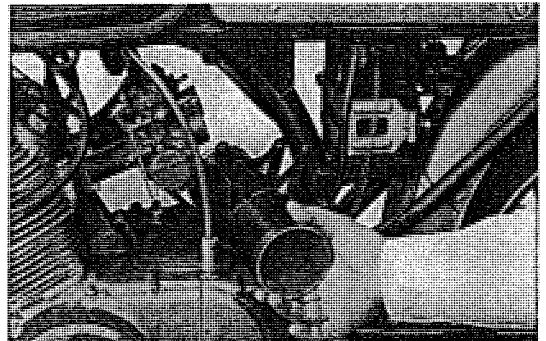

Fig. 4.57 Removing tool box from frame
6. By removing the 6 mm hex nut and 6×70 hex bolt, the tool box complete is separated from the frame. (Refer to Fig. 4.57)